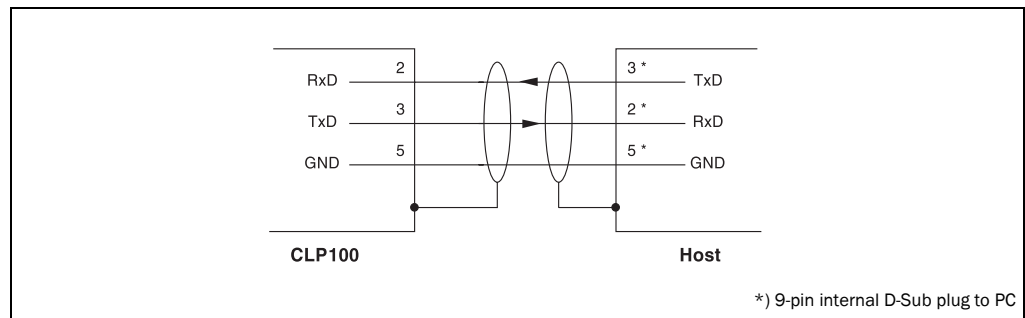

Fig. 5-1: Wiring the host interface (RS 232)
Fig. 5-1 shows the wiring of the host interface.
- Wire the host interface correctly in accordance with Fig. 5-1.